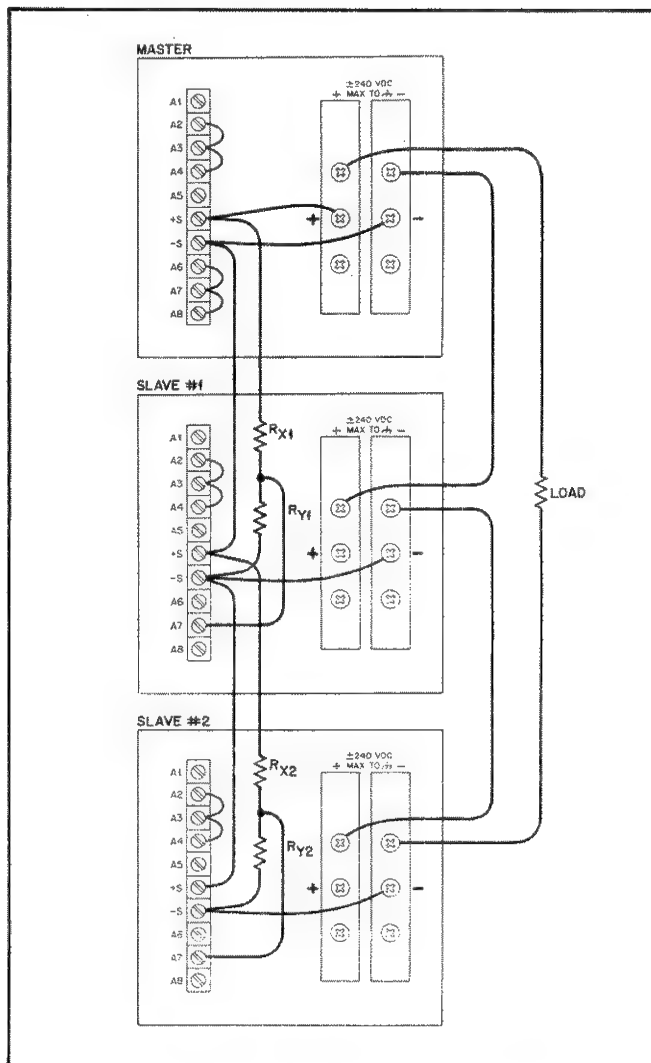

Figure 3-15. Auto-Series Operation
**3-68** Figures 3-15 and 3-16 show the rear-panel interconnections required to operate two or more supplies in auto-
series. This mode of operation provides a greater voltage capability than can be obtained from a single supply. As many as four supplies can be connected in auto-series in the configuration shown in Figure 3-15, and as many as eight supplies can be connected if the power supply combination and load are center-tapped as in Figure 3-16 (with no more than four supplies on each side of the center tap). Either configuration allows all the supplies to be programmed simultaneously by the voltage and current controls of the master supply. The master supply must always be the one at the positive end of the series combination. Any point of the output can be grounded if desired, as long as no other point in the output is more than 240 volts (including output voltage) from ground.